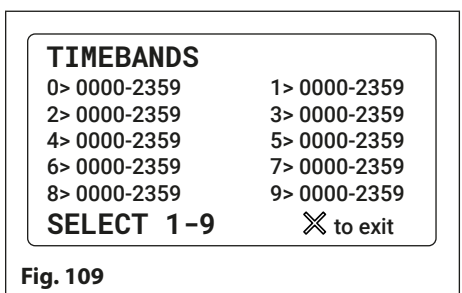

Fig. 109
- 0 - ☐ When set in this mode and the panel's onboard relay is activated the display will show that the door is open (refer to **Fig.109** on pages 60 - 61). The speech annunciation (if the speechboard is switched ON) will announce "the door is open".
Selecting option 5 from the time settings menu will access the 1st timeband screen (refer to **Fig.109**). On this screen the timebands can be selected and then programmed on the next timeband screen. The GSM intercom has 9 programmable timebands (1 - 9). Timeband "0" is the default timeband and is permanently set from 0000 - 2359 and cannot be adjusted.
Enter the time period required (using 24 hour clock notation, e.g. 4:35pm would be entered as 16:35). To confirm and save the setting press the ENTER button and the screen will revert back to the timebands list (refer to **Fig.109**).